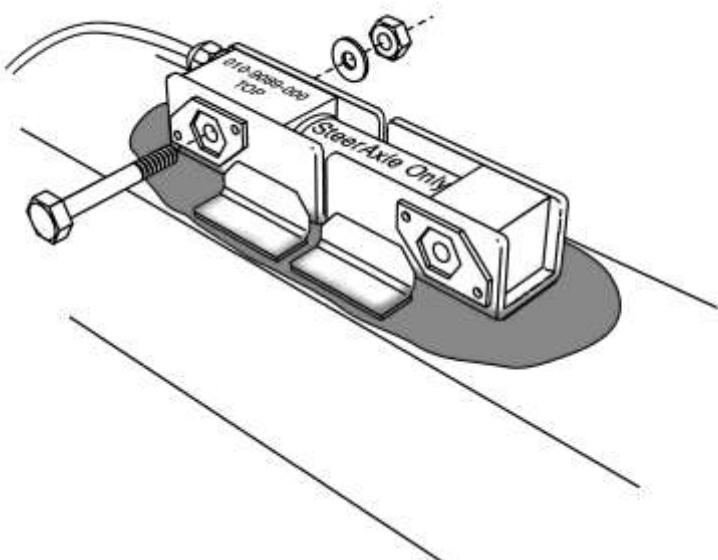

Fig. 7: Attaching the Sensor to the Bracket
6. Insert one bolt through the bracket hole on the sensor end with the word “**TOP**” on it (Fig. 7). Place a washer and a nut at the end of the bolt and hand-tighten the nut.